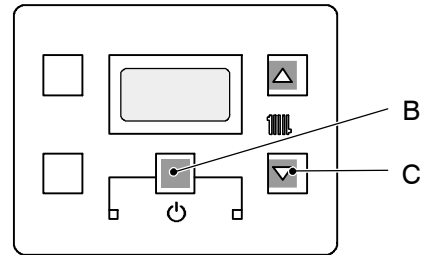

Fig. 6.10
- 7 To exit for setting without modifying the set press the keys (B – C Fig. 6.10)